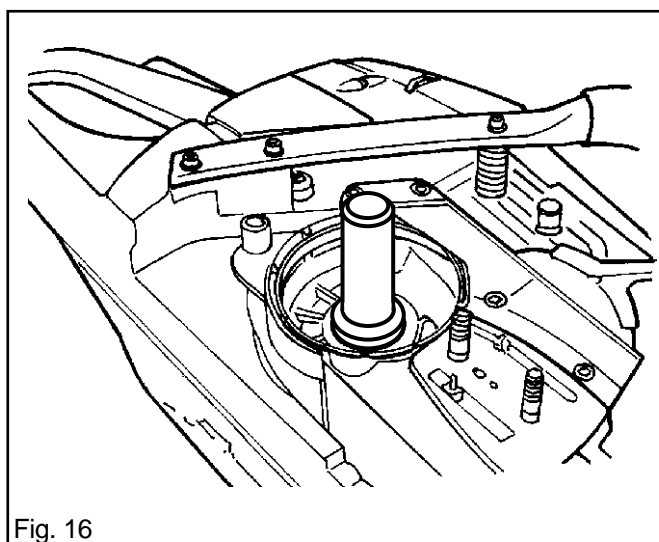

Fig. 16
3. Tap home the new seal with a driver (item 11 on pages 6 and 7). See fig. 16.